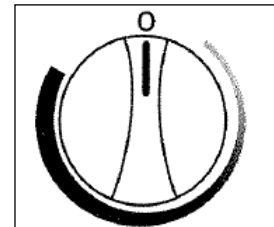

Fig. 2
- To turn off the wine cooler, (no cooling) rotate the control knob to the "0" (off) position. **See Fig. 2.** Turn the control to the "OFF" (0) position to temporarily disconnect the cooling cycle. When the wine cooler is not to be used for long periods of time, disconnect from power and leave the door partially open.